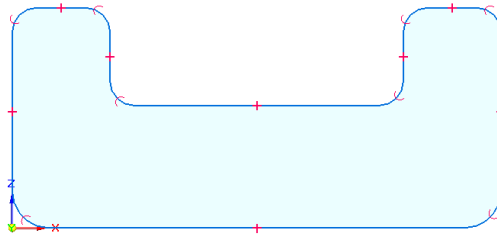

Figure 2-47 Sketch after creating fillets
6. Select the remaining corners of the sketch one by one and then fillet them with a radius of 10. The sketch after creating fillets is shown in Figure 2-47. Next, exit the tool by choosing the **Select** tool from the **Select** group of the **Home** tab.